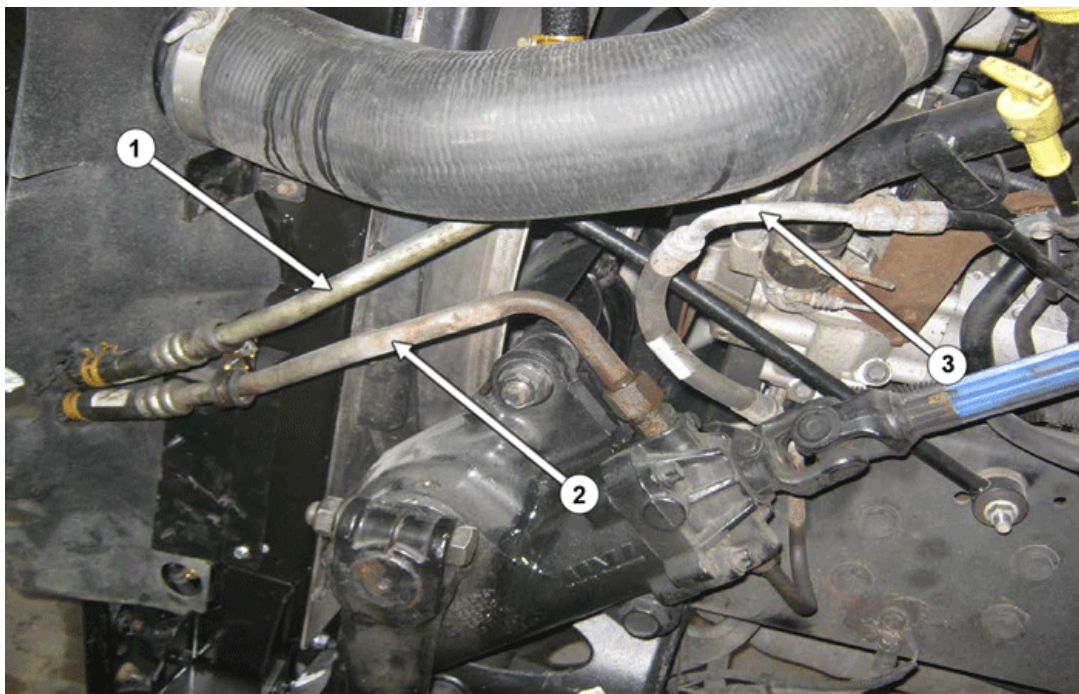

Figure 1
3. Remove the power steering cooler to reservoir, gear to cooler and pump to gear lines from the unit (Figure 1).